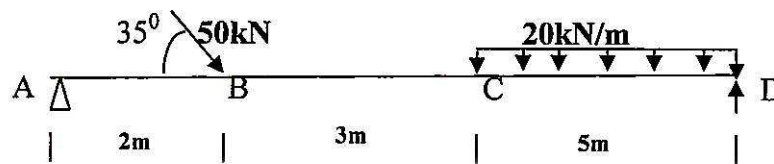

Fig. 2
- (b) Draw shear force diagram, bending moment diagram and axial thrust diagram for the beam ABCD with end 'A' hinged and loaded as shown in Fig. 2. [6]